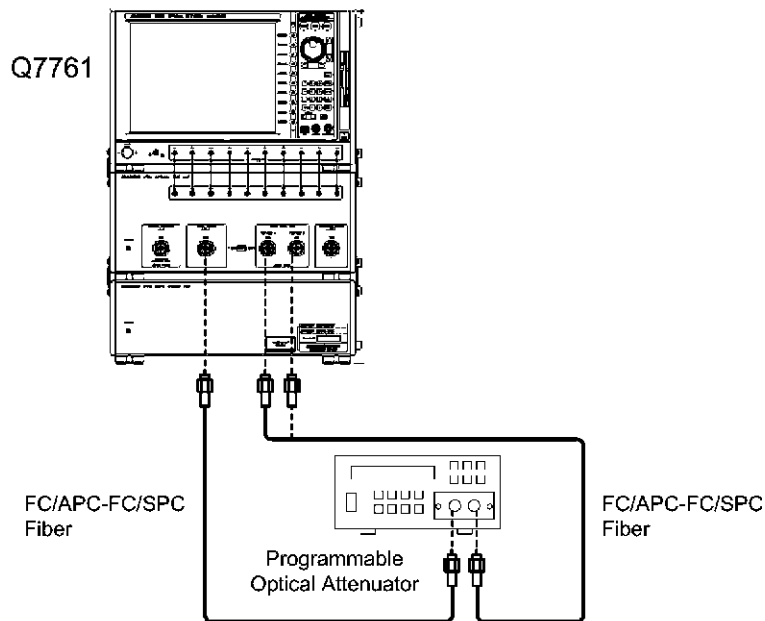

Figure 2-5 Connection-2 for Magnitude Characteristic Linearity (POWER Measurement Mode) Test
12. As shown in Figure 2-5, connect the “OPTICAL SIGNAL OUTPUT” of this instrument with the INPUT port of the variable optical attenuator, using the FC/APC-FC/SPC optical fiber, and the OUTPUT port of the variable optical attenuator with “TEST PORT 1” of this instrument, using another FC/APC-FC/SPC optical fiber.